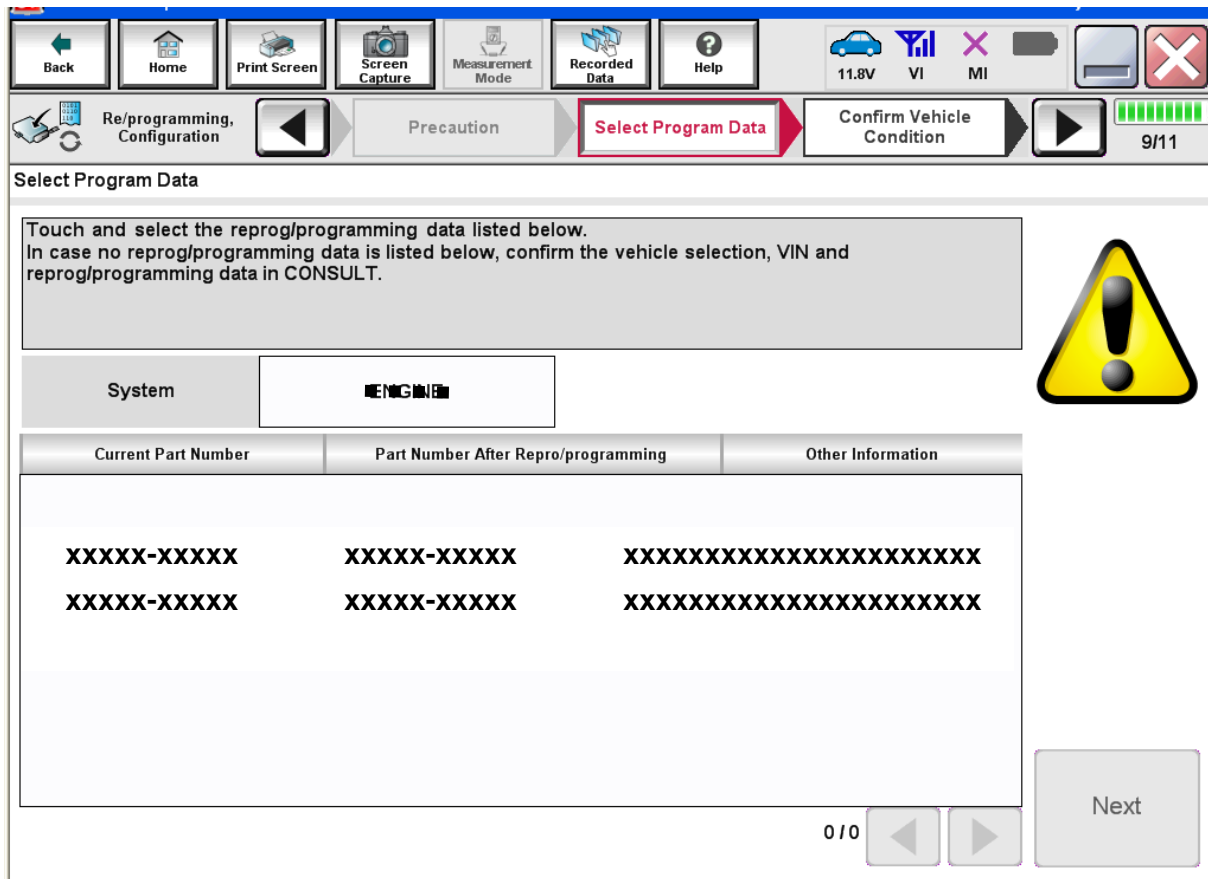

Figure 14
- If there is more than one new P/N, the screen in Figure 14 displays.